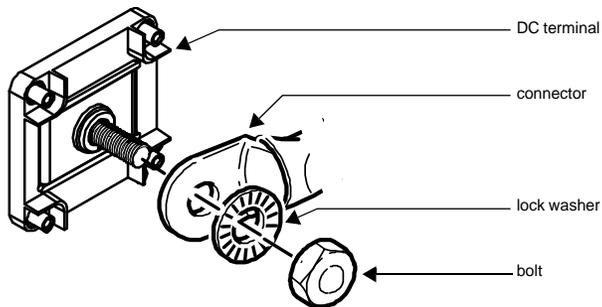

Figure 7 DC Cable Connections
Use only appropriately sized copper cable. Loose connections, improper connections, and under-rated cables will overheat. Make sure that the supplied bolts on the inverter/charger are tightened to a torque of 20.4–21.7 Nm. Torque all other connections to the manufacturer’s specifications. Make sure the DC cable, washers, and bolt are assembled in the order shown in Figure 7.
4. Connect one connector on the POSITIVE (+) cable to the POSITIVE DC terminal on the inverter/charger, as shown in Figure 7. The connector goes on first, then the lock washer and bolt.
- Connect one connector on the NEGATIVE (-) cable to the NEGATIVE (-) DC terminal on the inverter/charger, as shown in Figure 7. The connector goes on first, then the lock washer and bolt.